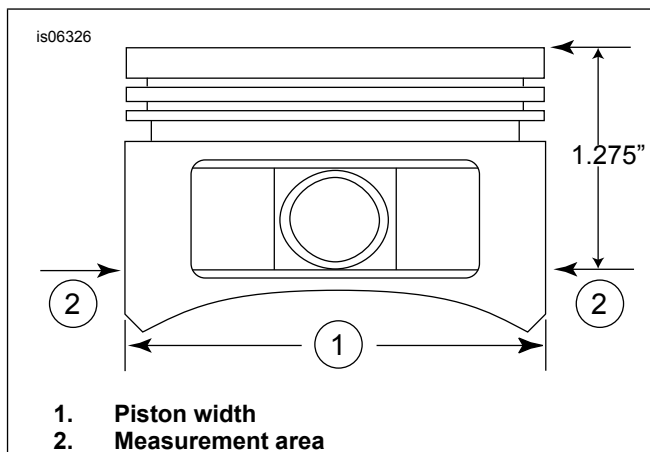

Figure 2. Piston Measurements
5. See Figure 2. Measure piston width (1), 90 degrees horizontally from both sides of the piston pin hole and 1.275 in. (32.385 mm) down from the deck (top) surface of the piston (2). See Table 11 for piston-to-cylinder fit at this location.